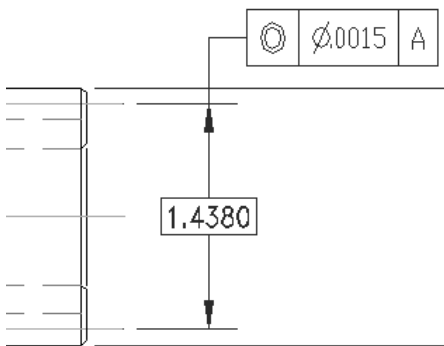

Figure 15-32: A Basic dimension.
- ♦ **Basic** dimensions place the dimension in a box, as shown in Figure 15-32.